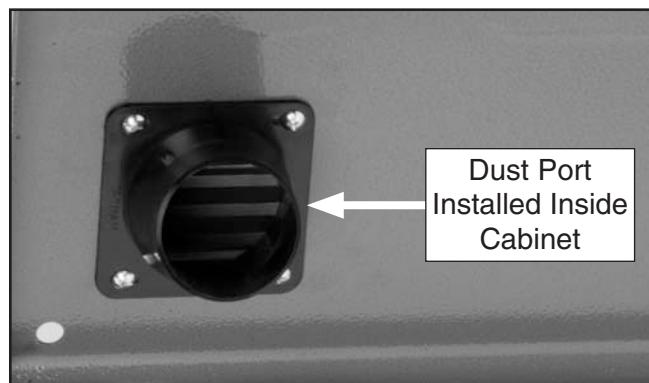

Figure 17. Dust port installation.
26. Install the dust port, as shown in **Figure 17**, with the four 10-24 x $\frac{1}{4}$ " Phillips head screws.